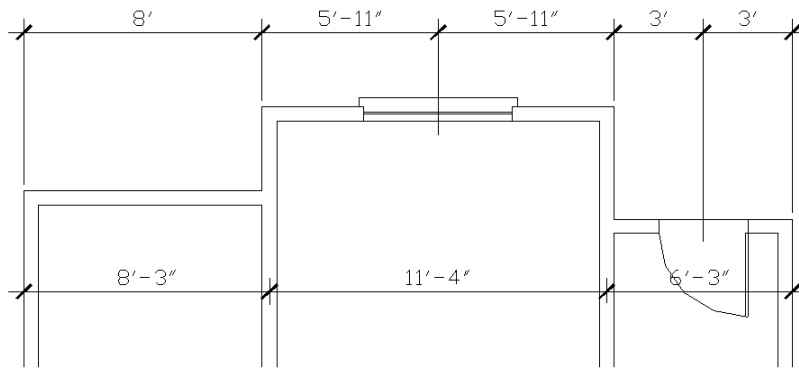

Figure 32. Dimensioning frame buildings
1. For opening dimension, dimension window/exterior door opening/interior partition locations from the **outside face of studs to the center of the openings/interior partitions** (Figure 32).